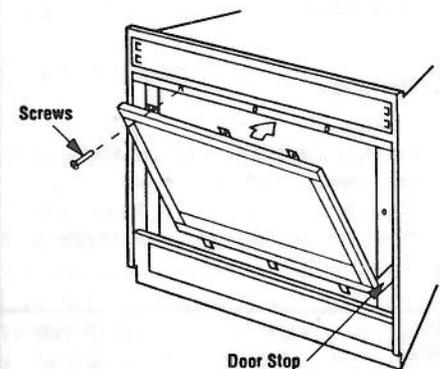

Figure 25
Position the door frame in front of the firebox opening, with the joint in the gasket down (Figure 25). Locate the three (3) tabs at the bottom edge of the door frame into the three (3) brackets at the base of the fireplace front opening. Lean the door frame back towards the fireplace ensuring that the gasket seats evenly as the door frame draws shut. Install the three (3) $\frac{1}{4}$ "-20 x 1" Phillips pan head screws removed previously and tighten to secure. Ensure that the tab on the bottom of the door frame engages the door switch.